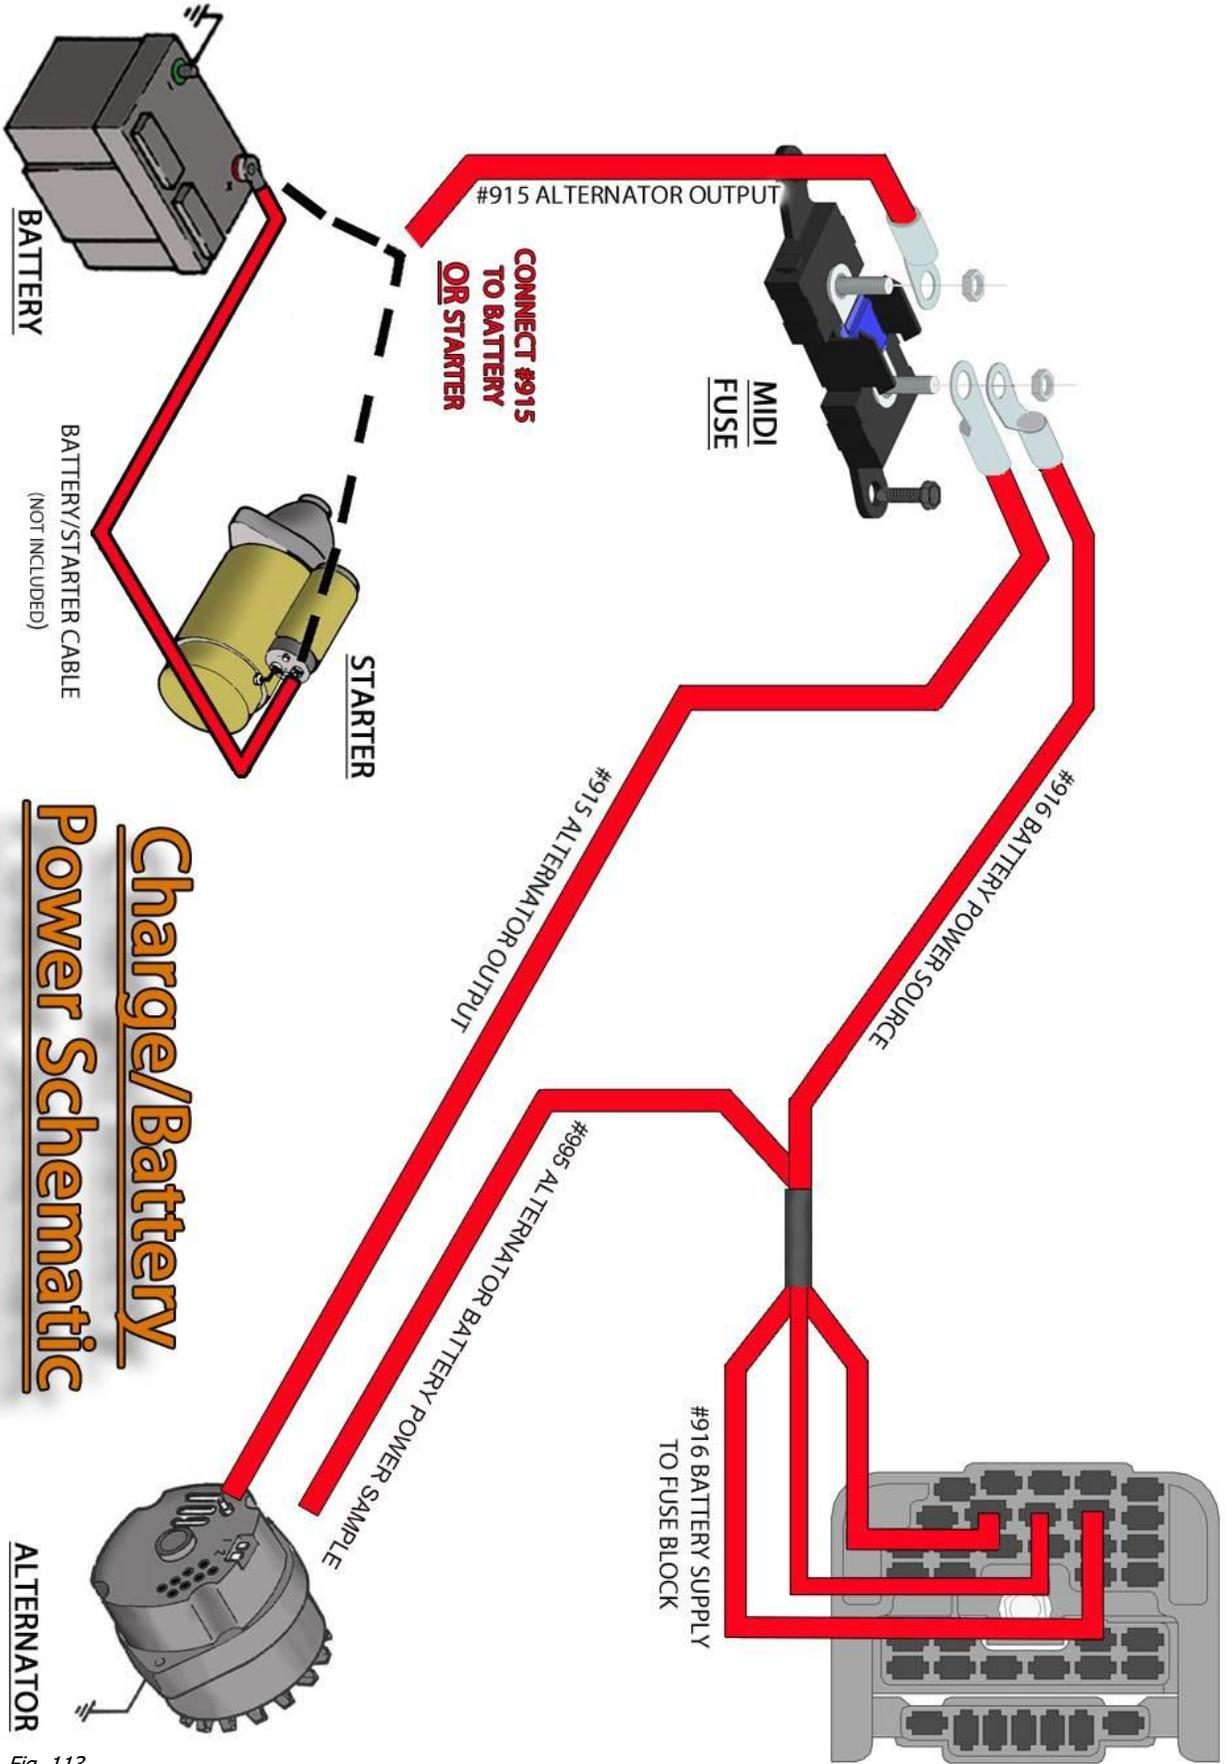

Fig. 113
**Red:** 14-gauge wire, printed **#995 ALTERNATOR BATTERY POWER SAMPLE**. This wire provides a battery power source, or amperage sample, that some alternator voltage regulators require. This wire has power at all times and comes from the large battery supply splice in the harness. **This wire is not be needed if you have a one-wire alternator or any of the CS series alternators** (see Charge/Battery Power Schematic on page 61; Fig. 113).
**Red:** 6-gauge wire, with a label printed **#915 ALTERNATOR OUTPUT**. This wire provides power out of the alternator to the chassis harness and back to the battery through the MIDI fuse (see Charge/Battery Power Schematic on page 61; Fig. 113).
- Connection to both sides of the fuse holder are made using the large ring terminals with the small #10 hole provided with the kit. You can use a pair of pliers if your crimpers do not accept this large-gauge wire/terminal. The heat shrink supplied with this kit is intended to cover the crimped end of each of these two ring terminals (see Charge/Battery Power Schematic on page 61; Fig. 113).
**Red:** 8-gauge charge wire, with the label reading **#916 BATTERY POWER SOURCE**. This wire feeds the harness, fuse block, and ignition switch battery power (see Charge/Battery Power Schematic on page 61; Fig. 113).
- Install this wire along with the **#915** wire coming from the alternator to the same side of the fuse holder. This is the opposite side of the holder from the wire going to the starter or battery (see Charge/Battery Power Schematic on page 61; Fig. 113).